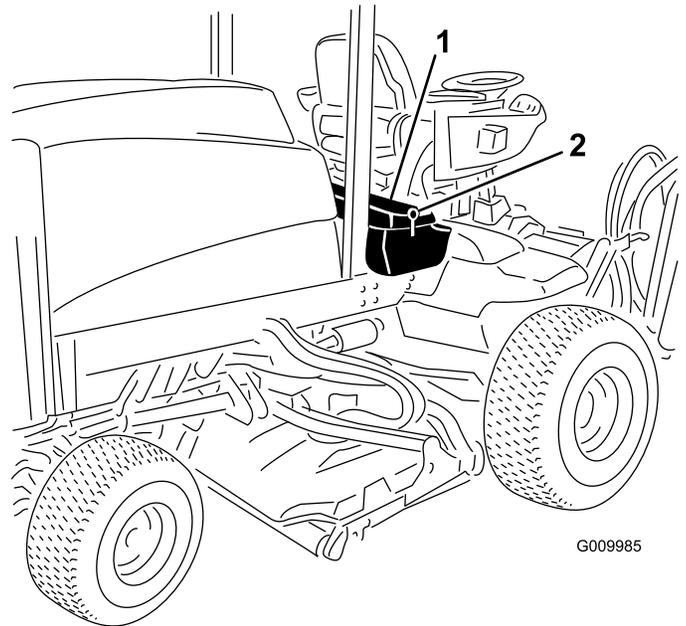
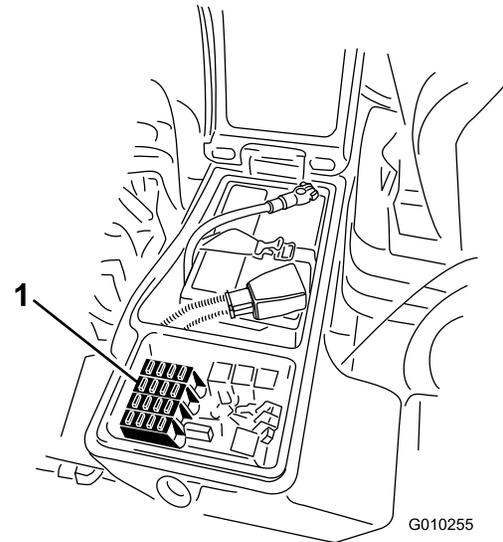

Figure 78
Figure 79
- Replace the open fuse(s) as needed (Figure 79).
- Close the cover of the right storage box and secure the cover with the latch (Figure 78).
- Loosen the latch for the cover of the right storage box and raise the cover (Figure 78) to expose the fuse block (Figure 79).